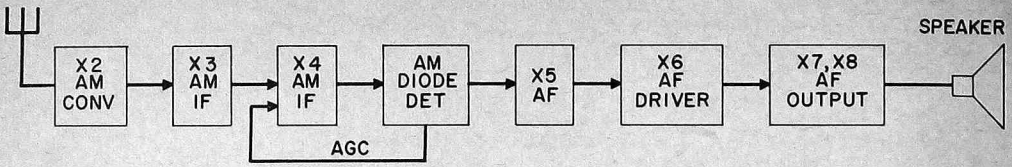
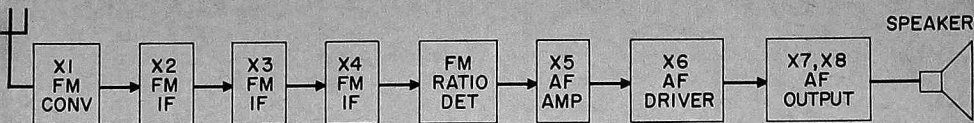

FIG. 1. AM block diagram.
FIG. 2. FM block diagram.
The audio signal is removed from the carrier by the diode detector circuit. A simple diode rectifies the signal and the rf is filtered out by an RC network. As shown in Fig. 1, the detector provides an AGC voltage which is fed to the second i-f stage. This AGC voltage varies the gain of the i-f as the i-f carrier level changes. Thus, the i-f output level remains relatively constant.
A look at the FM block diagram in Fig. 2 will show that it looks much like the AM diagram in Fig. 1. Where the AM converter handles frequencies up to 12-mc, the FM frequency range is 88 to 108-mc. Thus, a separate converter stage is used for FM. X1 generates the local oscillator frequency, mixes it with the rf and amplifies the resulting i-f. Incidentally, the FM i-f is 6.7 mc.
By comparing Fig. 2 with Fig. 1 you can see that the AM operation is almost exactly like the FM. There are some noteworthy differences, however. For our discussion of the broadcast band (BC), assume that all sections of the BC and FM switches are in the po-